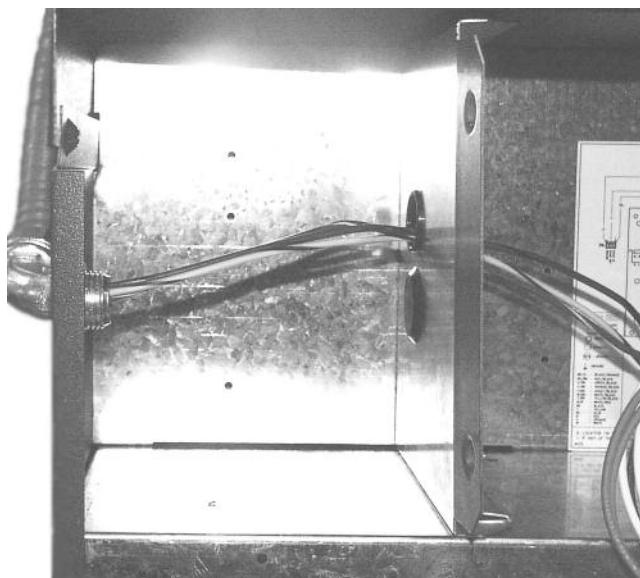

Fig. 19
19. Route the 24 VAC harness through the 7/8" grommet, See Fig. 19.